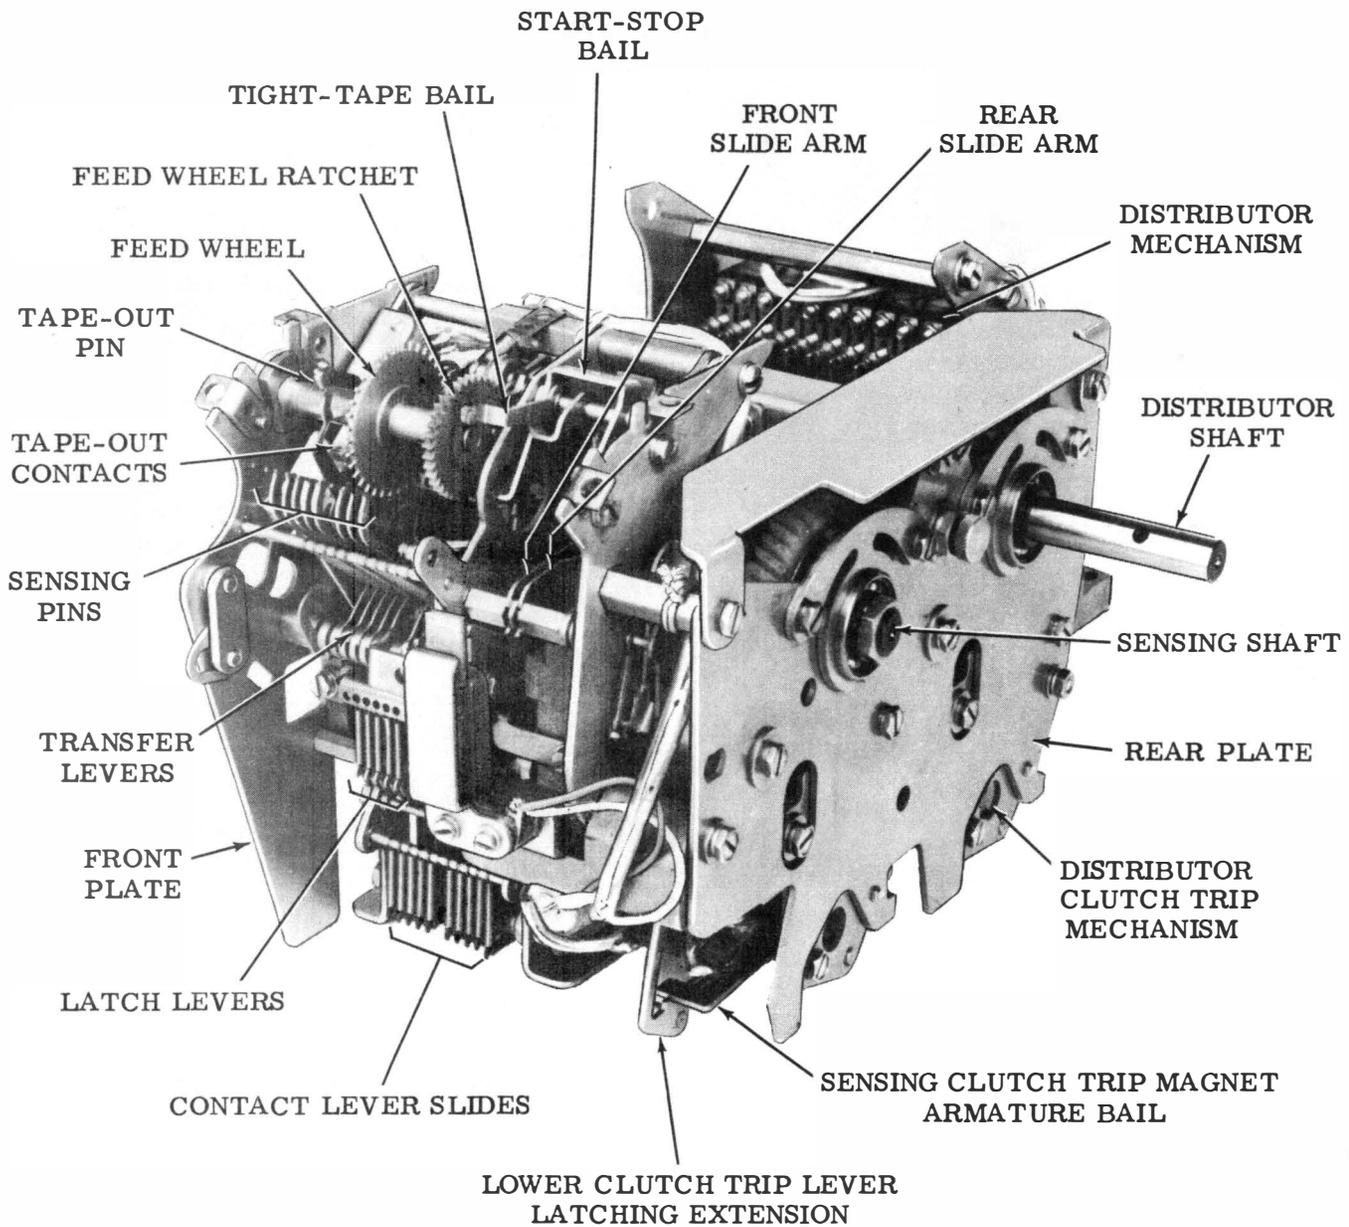

Figure 3 - Typical 35 Transmitter-Distributor, Top, Cover, and Tape Guide Plates Removed
- (i) Tape-out and tight-tape contacts (Figure 3).